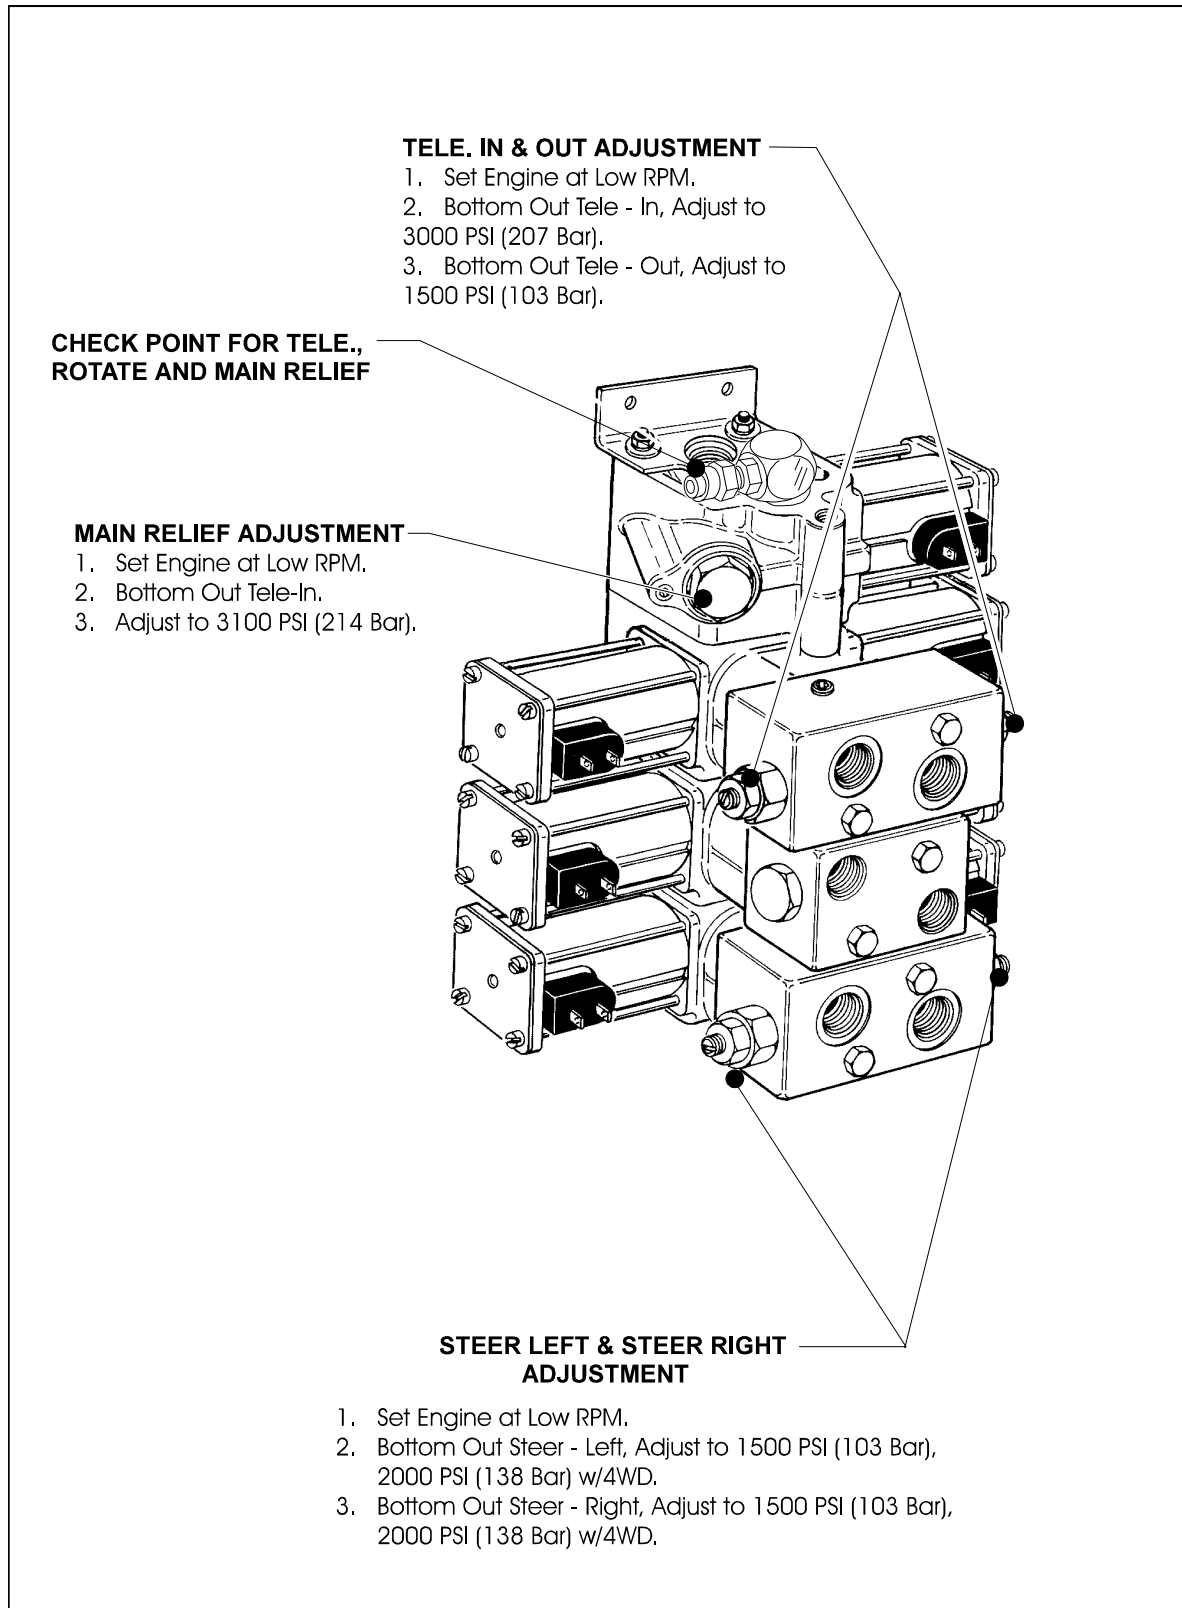

Figure 2-26. Solenoid Valve Pressure Settings - Machines Built to Present
3. Solenoid Valve Pressure Settings Machines Built To Present are shown in Figure 2-26.